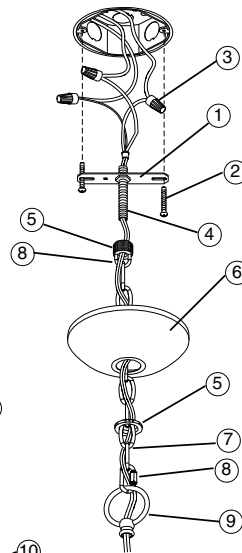

Figure 4
5. Assemble mounting hardware: Thread Threaded Pipe (4) about 1/2" into center hole of Crossbar (1). Hold short end of Threaded Pipe (4) and place Canopy (6) over opposite end (Note: Crossbar will be inside of canopy). Thread Canopy Loop/Nut (5), attached to end of chain, onto end of Threaded Pipe. See Fig. 4
6. To determine desired length of chain use Lockable Link (8) and hook Chain (7) temporarily to Loop (9). Hold fixture up to ceiling to determine desired length of Chain and remove links if needed. Note: Use pliers to remove links to adjust Chain to desired length or call Technical Support to purchase additional chain. Attach end link of Chain (7) to Loop (9) with Lockable Link (8). Route the ground & fixture supply wires through every fourth link of chain and through center of 1-1/2" Threaded Pipe (4) in Crossbar (1). Trim ground & fixture supply wires to extend approximately 6" beyond Threaded Pipe and strip 1/2" insulation from ends of wires. See Fig. 4
7. Take fixture assembly by the Chain, loosen Canopy Nut (5) completely and slide Canopy (6) down. Have one person help to support fixture while mounting Crossbar (1) to junction box with two 1-1/2" Screws (2). See Fig. 4
5. Ensamble el herraje de montaje: Rosque el Tubo Roscado (4) alrededor de 1/2" en agujero de centro de la Barra Transversal (1). Sostenga el extremo corto del Tubo Roscado (4) y coloque el Espaciador de Sobrecielo (6) sobre el extremo opuesto (Nota: La Barra Transversal estará dentro del Espaciador de Sobrecielo). Rosque la Tuercas de Lazo del Espaciador de Sobrecielo (5), la cual esta sujeta al extremo de la cadena, al extremo del Tubo Roscado. Vea Fig. 4.
7. Agarre el ensamblaje del luminario por la Cadena, suelte la Tuercas del Espaciador de Sobrecielo (5) totalmente y deslice el Espaciador de Sobrecielo hacia abajo. Haga que una persona ayude a sostener el luminario mientras este montando la Barra Transversal (1) a la caja de ensambladura con dos Tornillos (2). Vea Fig. 4.